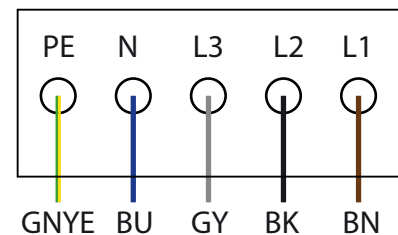

Figure 7: AC connection terminals
- 6. Connect the wires in accordance with the labels on the PCB terminals (Figure 7 on page 20).